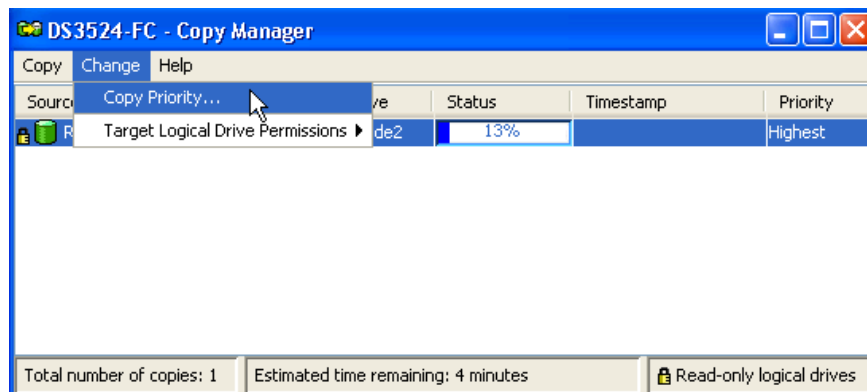

Figure 3-16 Select Copy Priority from Copy Manager
3. Select **Change** → **Copy Priority**. (Or, right-click and select **Copy Priority**.) See Figure 3-16.